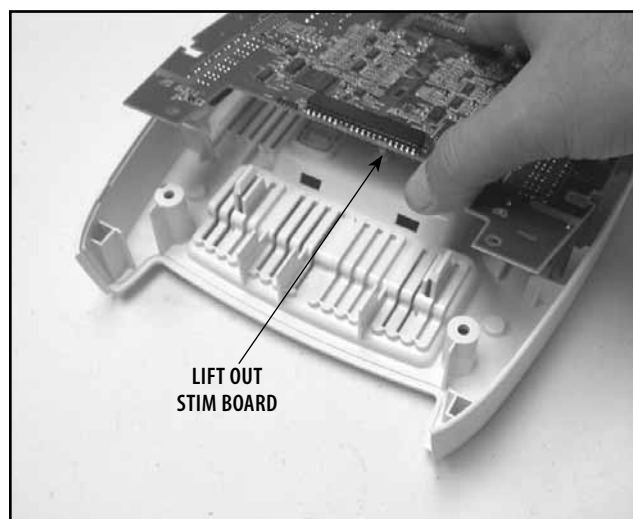

FIGURE 6.51A
4. Lift Channel 3/4 Stim Board from Module Housing. See Figure 6.51A.